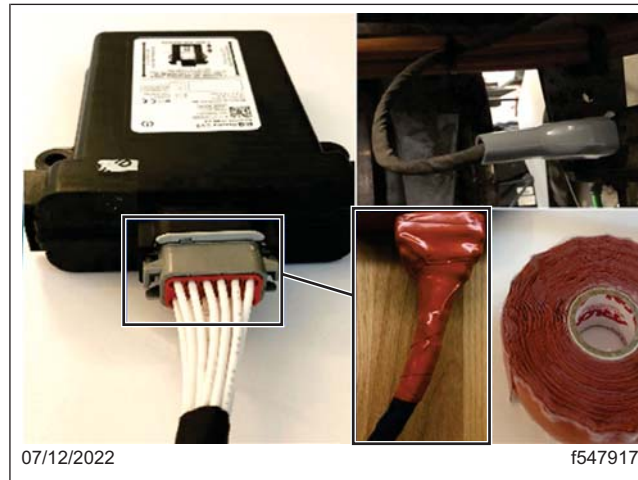

Fig. 5, Wire Harness Protection
7. Connect the wiring harness to the main connector on the receiver. A protective boot (gray boot shown in the top-right of Fig. 5) started being installed in production on November 7, 2022. If the vehicle does not have this protective cover, wrap the connector and the first two inches of the harness with Arlon self-fusing silicone tape, shown in the bottom-right of Fig. 5. Wrapping the wiring protects it from direct water spray and provides strain relief, eliminating the chance of side loading the wires on the wire seal.